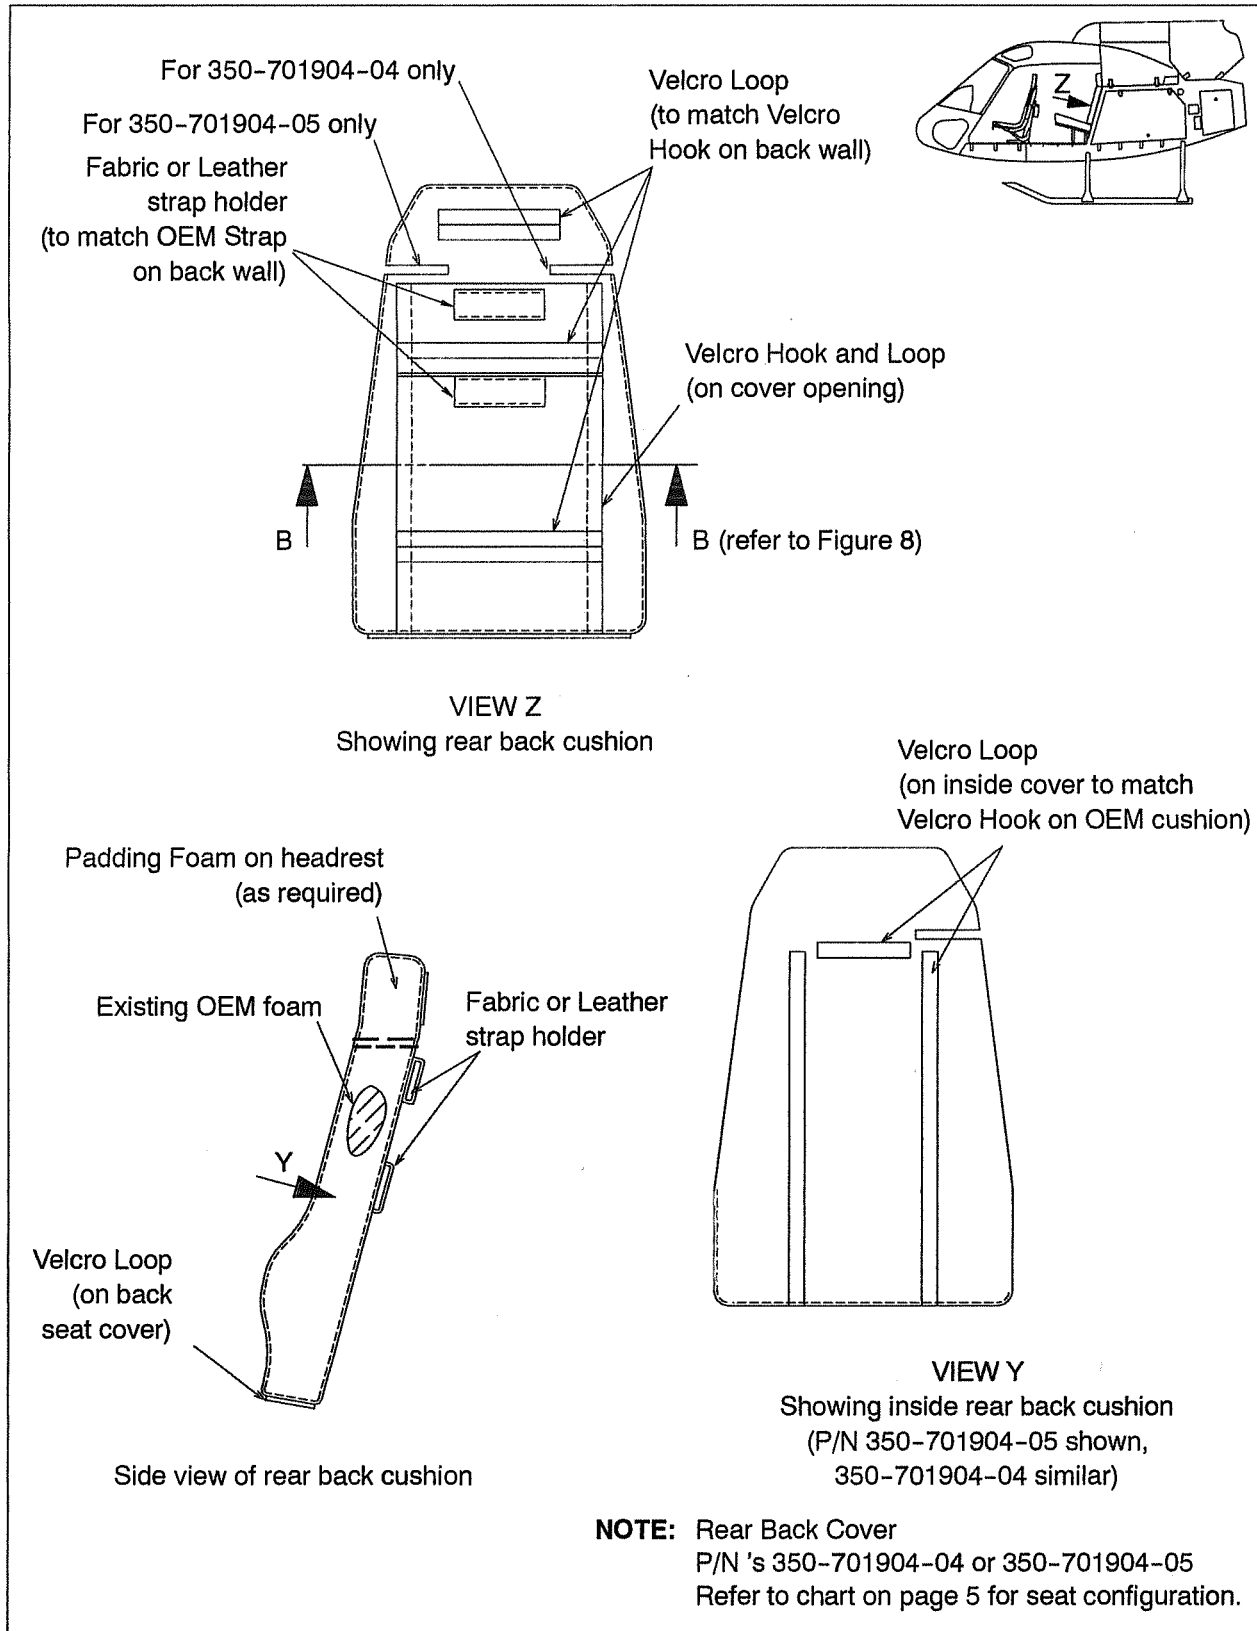

Figure 6 Rear Seat Cover Details (Sheet 1 of 2)
- 3) REAR BACK AND BOTTOM SEAT COVERS (Refer to Figure 6)